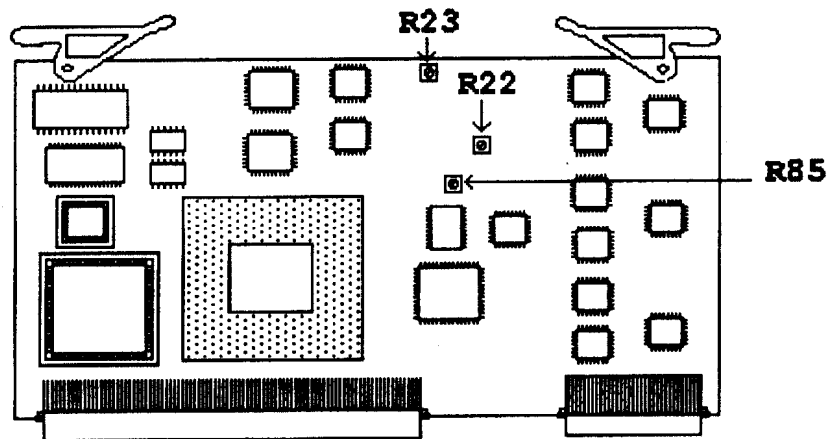

Figure 2. Function generator assembly A24.
(4) Connect multimeter **INPUT HI** and **LO** to **TI AUDIO OUT**. Set multimeter to measure volts dc.
(5) Press **FIELD SELECT** ↓ key to select **LEVEL** and press **DATA ENTRY ENTER** key. Press **DATA ENTRY 3 . 1** and **ENTER** keys.
(6) Press **FIELD SELECT** ↑ key to select **GEN 1** and press **DATA ENTRY ENTER** key to set **GEN 1 On**.
(7) If multimeter does not indicate $0.000 \pm .01$ V dc adjust A24R23 (fig. 2) as close as possible.
(8) Press **DATA ENTRY ENTER** key to set **GEN 1 Off**. Press **FIELD SELECT** ↓ key to select **GEN 2** and press **DATA ENTRY ENTER** key to set **GEN 2 On**.
(9) If multimeter does not indicate 0.000 ± 0.01 V dc adjust A24R22 (fig. 2) as close as possible.
(10) Press **DATA ENTRY ENTER** key to set **GEN 2 Off**. Press **FIELD SELECT** ↑ key to select **GEN 1** and press **DATA ENTRY ENTER** key to set **GEN 1 On**.
(11) Press **FIELD SELECT** ↓ key to select **GEN 1 WAVE**, adjust **DATA SCROLL** knob to select **Sine**, and press **DATA ENTRY ENTER** key. Set multimeter to measure volts ac and record multimeter indication (approximately 3.1 V rms).
(12) Press **FIELD SELECT** ↑ key to select **GEN 1** and press **DATA ENTRY ENTER** key to set **GEN 1 Off**.
(13) Press **FIELD SELECT** ↓ key to select **GEN 2 WAVE**, adjust **DATA SCROLL** knob to select **Sine**, and press **DATA ENTRY ENTER** key. Press **FIELD SELECT** ↑ key to select **GEN 2** and press **DATA ENTRY ENTER** key to set **GEN 2 On**.
(14) Adjust A24R85 (fig. 2) for a multimeter indication recorded in (11) above ± 5 mV (R).
(15) Disconnect multimeter and reconnect to TI and resistance standard set to 150Ω .
(16) Press **MODE MTRS** key, **AUX (F6)** key, **DATA ENTRY** key 1 (Calibrations), and press **FIELD SELECT** ↓ key to select **15. Func Gen Level**. Press **DATA ENTRY ENTER** and **DATA ENTRY 1** keys (199.9 mV calibration).
(17) Use **DATA SCROLL** controls to adjust multimeter indication for 199.0 ± 1 mV ac and press **DATA ENTRY ENTER**.
(18) Press **DATA ENTRY 2** key (2.5 V calibration), use **DATA SCROLL** controls to adjust multimeter indication for 2.500 ± 0.010 V ac then press **DATA ENTRY ENTER** key.
(19) Press **ESC (F6)** key, press **FIELD SELECT** ↑ or ↓ key to highlight **8. VRMS Meter**, and press **DATA ENTRY ENTER** key.
(20) Press **DATA ENTRY ENTER** and use **DATA ENTRY** keys to enter multimeter indication to two decimal places, then press **DATA ENTRY ENTER** and **Ret (F5)** keys.
(21) Press **MODE AF GEN** (AF GEN Display) key; when prompted for backup data, press **SHIFT** and **Y** keys (Backup Cal Data ? y/n).
(22) Disconnect test equipment, press **TI POWER** key off, remove frequency generator assembly and extender card, and reinstall frequency generator assembly in proper slot. Press **TI POWER** key ON.